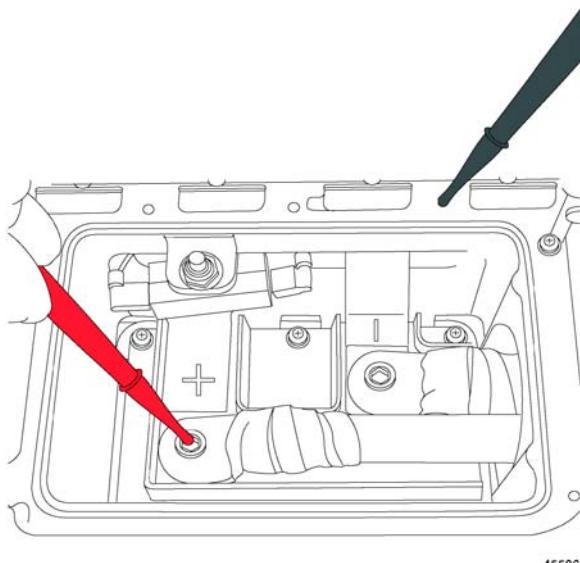

Figure 2–7. Measure Voltage Between Each DPIM DC HV Terminal and Ground
8. Remove both HVIL covers on the ESS (Figure 2–8).